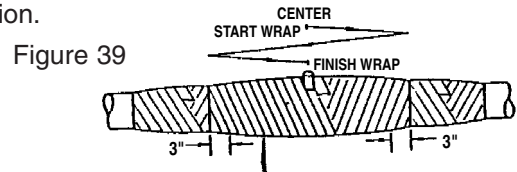

Figure 39
- Starting and ending at 3 inches beyond the Sealant Layer, half-lap 2-inch DR Tape in a Z fashion as shown in Figure 39. Apply tape under continuous tension.